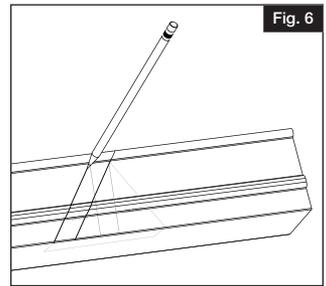
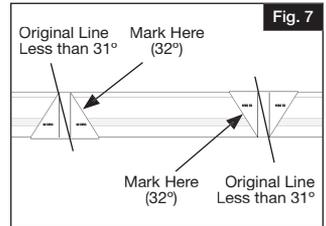

Fig. 6
Fig. 7
- Prior to installing round aluminum balusters, insert the provided foam strips into the top of the top rail and bottom of the bottom rails (sides opposite of routed holes). Cut to rail length. Then, remove 1" of the release paper from each end to expose adhesive (Fig. 6). Press fit the foam strips to rails (Fig. 7). DO NOT remove the release paper from entire strip – Only remove 1" from each end.
a. From the original line created by the post, mark another line $\frac{1}{16}$ " on the inside of the bottom rail (closer to the baluster routes) (Fig. 6). This is accomplished by using the angle template (Fig. 7). This additional removal of material will allow for bracket clearance when the rail is installed. For this 26°-31° angle, the new line will NOT be parallel to the previously drawn line.